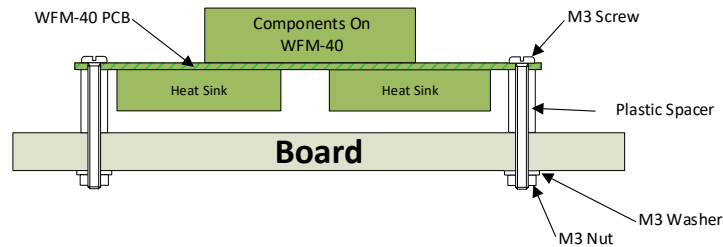

Figure 7 Mounting Suggestion
- (5) Mount the unit using the four M3 metric screws, nuts and spacers provided. Mount the unit on a suitable piece of board, either your baseboard (top or bottom) or a separate board perhaps at the front of your model railroad. The component side of the module should face away from the board as in Figure 7. Take care that no part of the unit touches any metal as this may cause a short circuit and result in permanent damage. Do not mechanically stress or bend the module as this may cause permanent damage. **Take care to ensure that there is adequate ventilation to avoid overheating.**
- (6) Turn on the power and test your installation. Refer to the Tower Operator Quick Start, or Full Help Pages for instructions on setting up a schematic control panel on your Windows or Android computer or tablet.